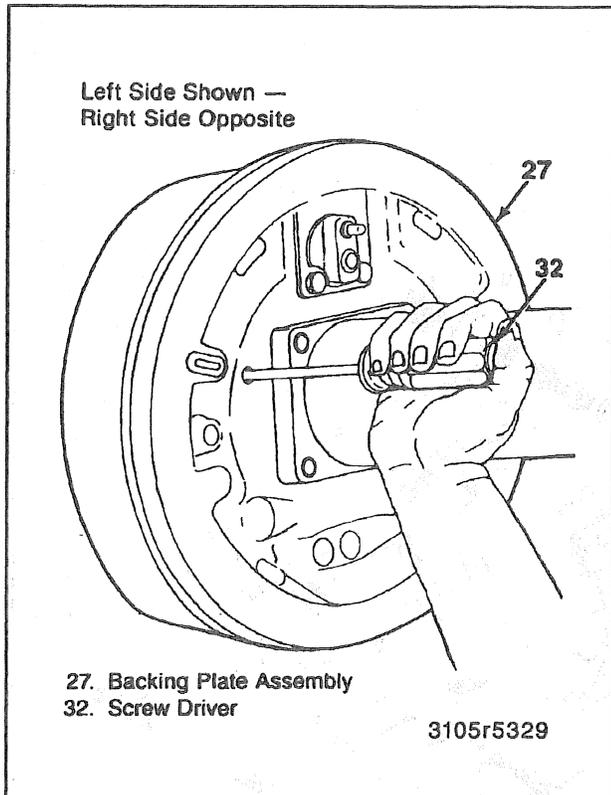

Figure 2—Pushing the Parking Brake Lever Off its Stop
- C. Remove the access hole plug (25) from the backing plate and insert a screwdriver through the hole to push the parking brake lever off its stop (figure 2).
6. Actuator spring (1) and adjuster actuator (3).
- A. Raise the lever arm of the actuator (3) until the upper end is clear of the slot in the adjuster screw (12) (figures 2 and 3).
- B. Slide the actuator (3) off of the adjuster pin (28).
- C. Disconnect the actuator spring (1) from the shoe (7).
7. Hold-down spring assemblies (5) and pins (6).
8. Lower return spring (4).
- B. Lift the lower return spring (4) over the anchor plate.
9. Shoe and lining assemblies (7 and 8) along with the upper return spring (2) and adjusting screw assembly.